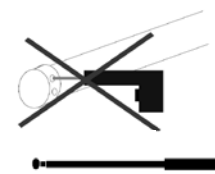
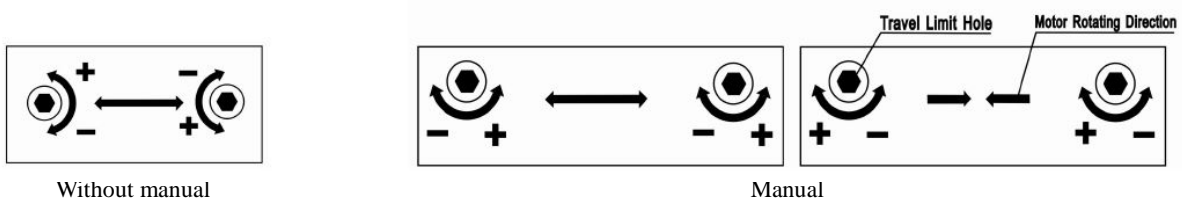

Fig.6
Fig.5
2. According to the motor's rotating direction and the adjusting instruction, Insert travel limit pole into its travel limit hole to adjust limit travel(end limit setting with drill is forbidden(Fig.6)): the direction of "+" will increase the shutter's travel; the direction of "-" will reduce the shutter's travel. (Fig.5)